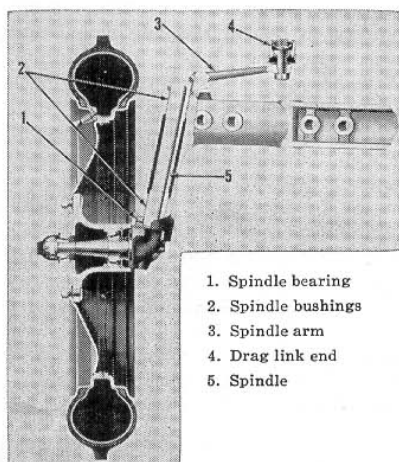

Fig. FO3—Front axle hub and spindle on models 2N-8N-9N.
2. To rebush axle spindles, first block up tractor front end and remove steering arms. Slide spindles with wheels attached, out of axle ends. Drive old bushings out of axle and install new bushings, using a piloted installing tool. New steel bushings are presized and are not reamed. Check and adjust wheel alignment, after reinstallation of axle parts removed. See Fig. FO3.